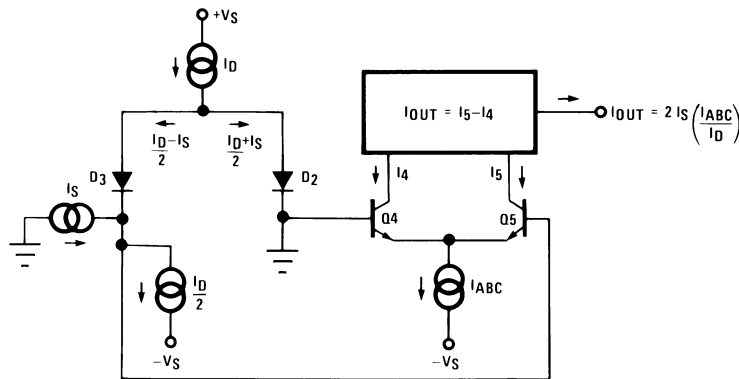

FIGURE 1. Linearizing Diodes
For differential voltages greater than a few millivolts, Equation (3) becomes less valid and the transconductance becomes increasingly nonlinear. Figure 1 demonstrates how the internal diodes can linearize the transfer function of the amplifier. For convenience assume the diodes are biased with current sources and the input signal is in the form of current I_S . Since the sum of I_4 and I_5 is I_{ABC} and the difference is I_{OUT} , currents I_4 and I_5 can be written as follows:
Figure 2 shows how the linearizing diodes can be used in a voltage-controlled amplifier. To understand the input biasing, it is best to consider the 13 k Ω resistor as a current source and use a Thevenin equivalent circuit as shown in Figure 3. This circuit is similar to Figure 1 and operates the same. The potentiometer in Figure 2 is adjusted to minimize the effects of the control signal at the output.